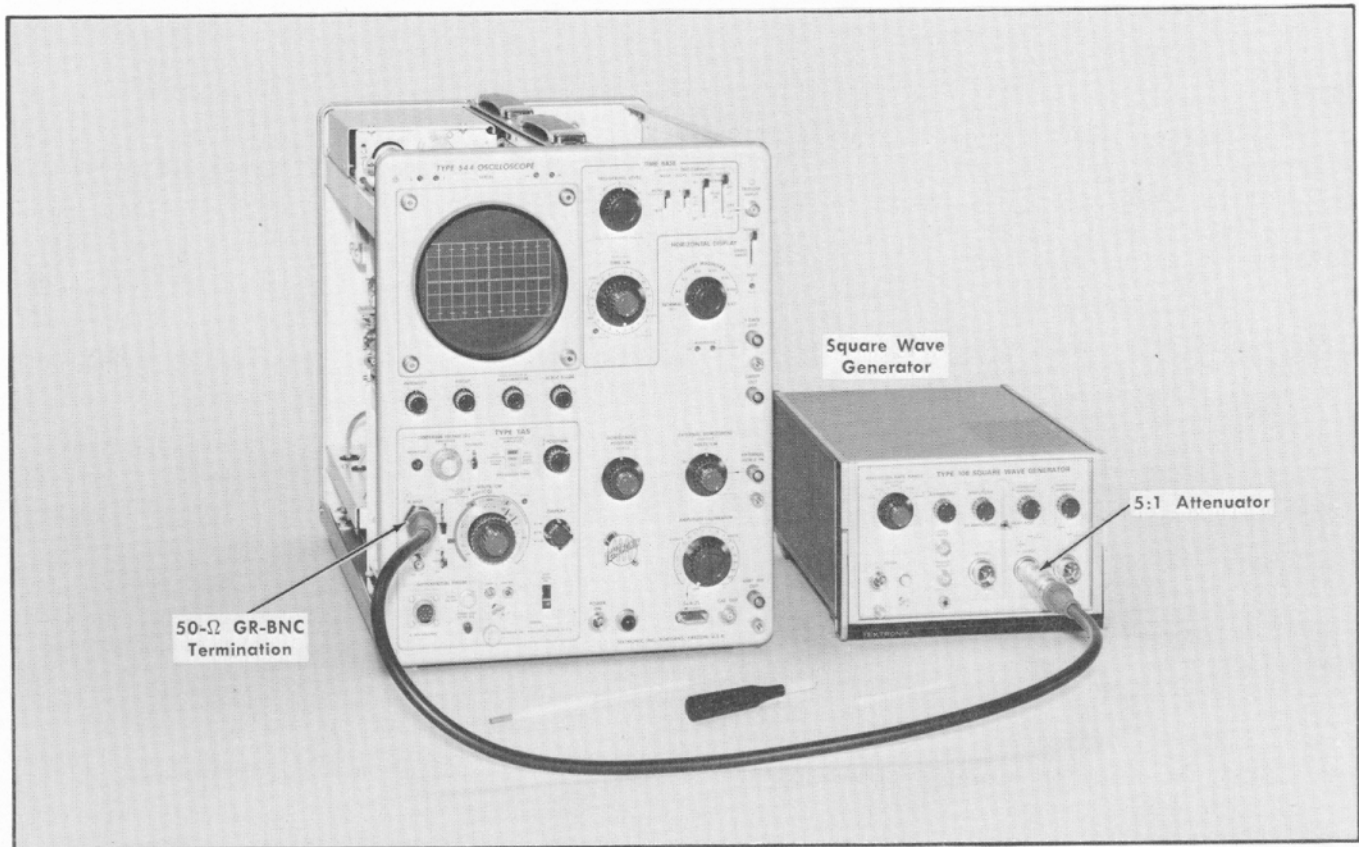
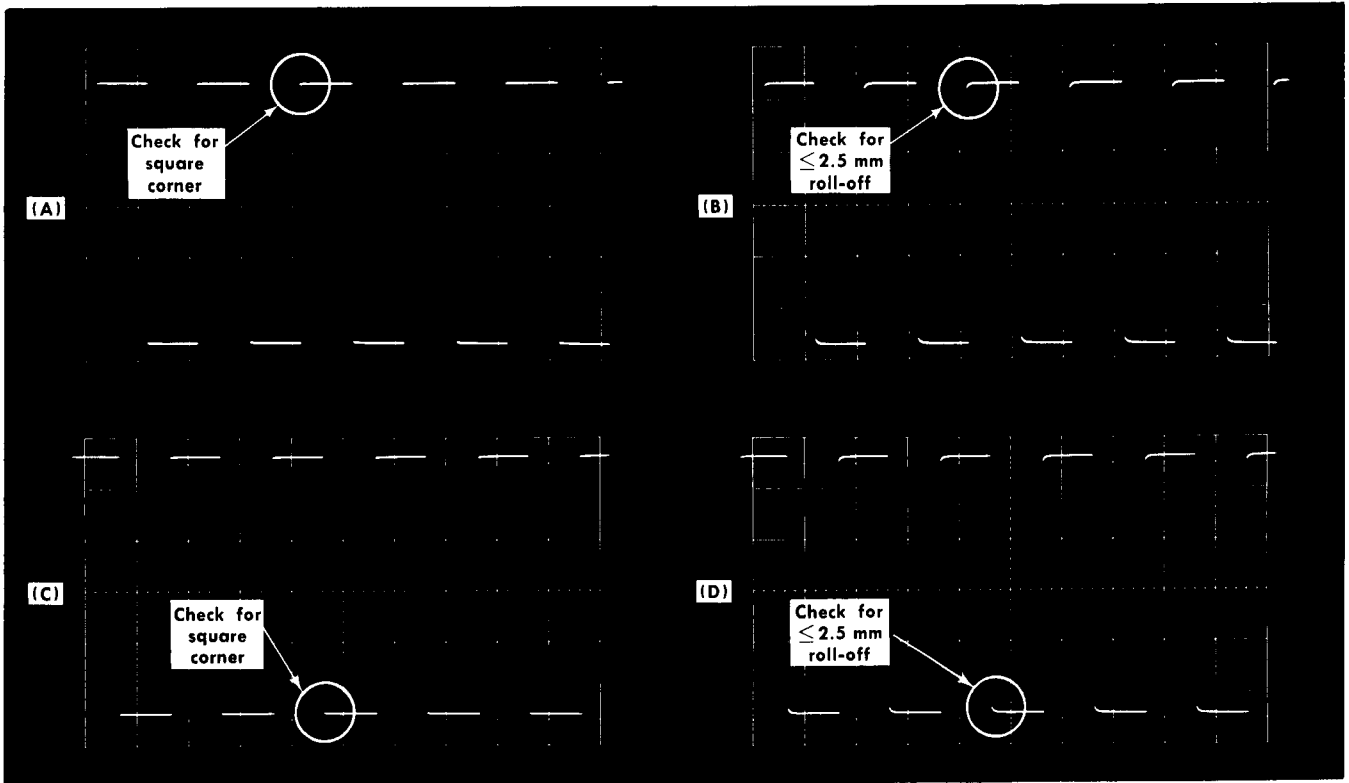

Fig. 6-22. Equipment setup for steps 20 and 21.
Fig. 6-24. Total crosstalk check—step 21. (A) and (B): A INPUT. (C) and (D): B INPUT.
a. Equipment setup is shown in Fig. 6-22. Adjustment locations and typical waveforms are indicated in Fig. 6-23.
- a. Equipment setup is shown in Fig. 6-22. Typical waveforms are shown in Fig. 6-24.
- f. Check for a square upper left corner of square wave as in Fig. 6-24 (A).
- h. CHECK—2.5 mm or less A INPUT roll-off at upper left corner of square wave. See Fig. 6-24 (B).
- j. Check for a square lower left corner of square wave as in Fig. 6-24 (C).
- l. CHECK—2.5 mm or less B INPUT roll-off at lower left corner of square wave. See Fig. 6-24. (D).